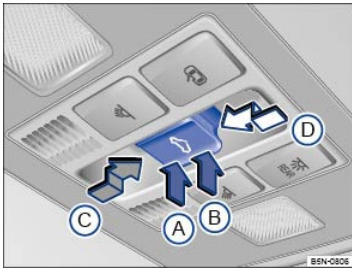

Fig. 76 In the headliner: Power sunroof switch.
The ☁️ switch ⇒ Fig. 76 has two detents for each switch position (A, B, C, and D).
- Press the ☁ button ⇒ *Fig. 76* within about 5 seconds after the sunroof has stopped and hold it in the direction of the arrow ① at the second detent until the power sunroof closes completely.